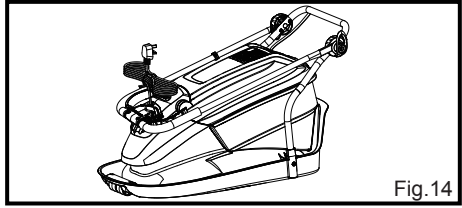

Fig. 14
Storing the Mower (See Fig. 14)
- Fold the upper handle assembly over the device housing. Making sure that the cables do not become trapped (Fig. 14).